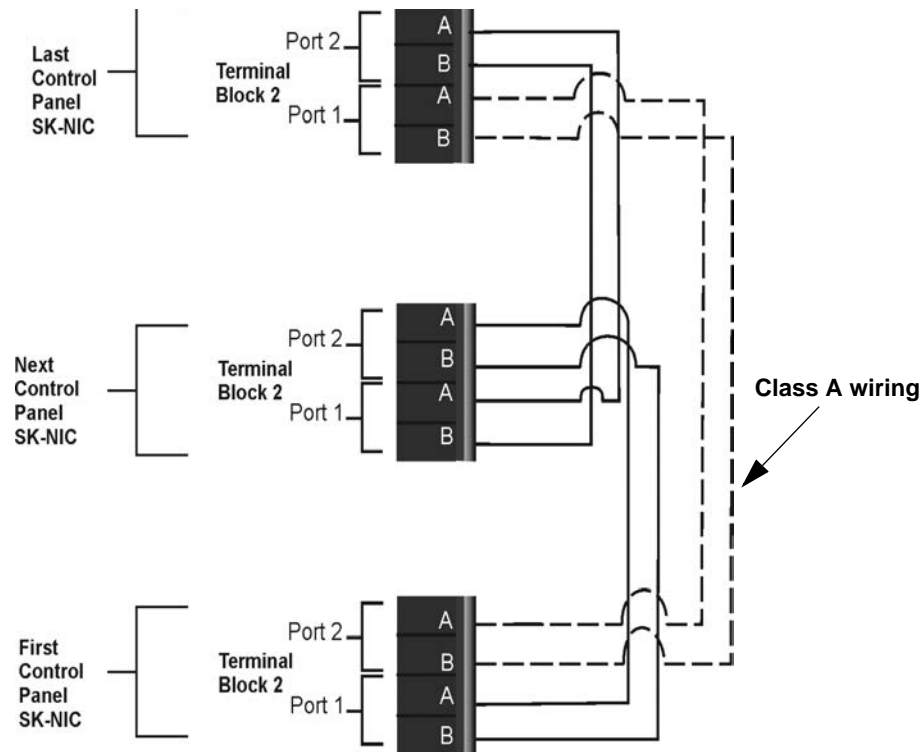
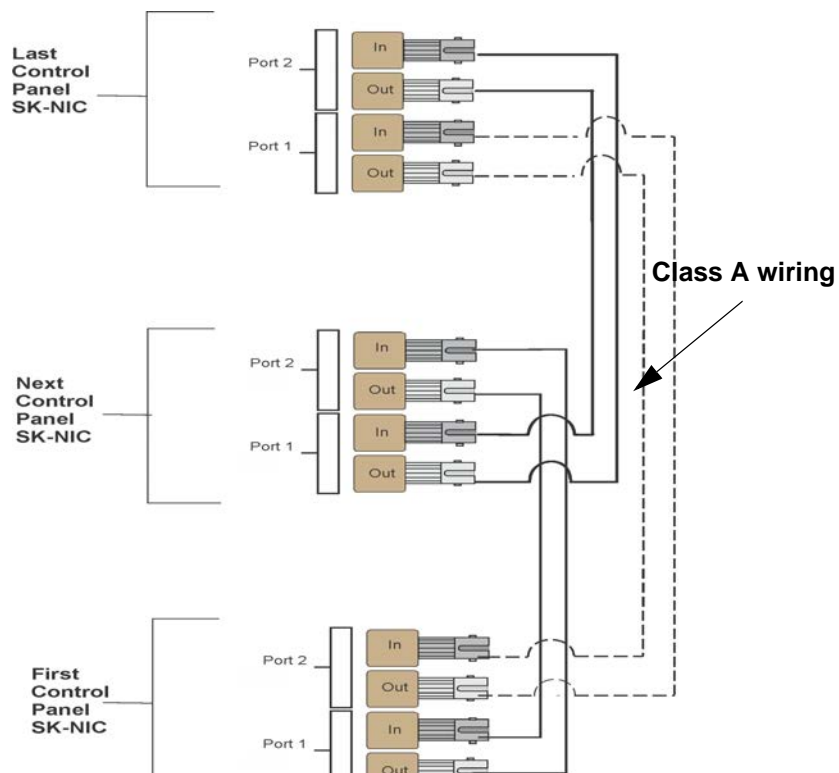
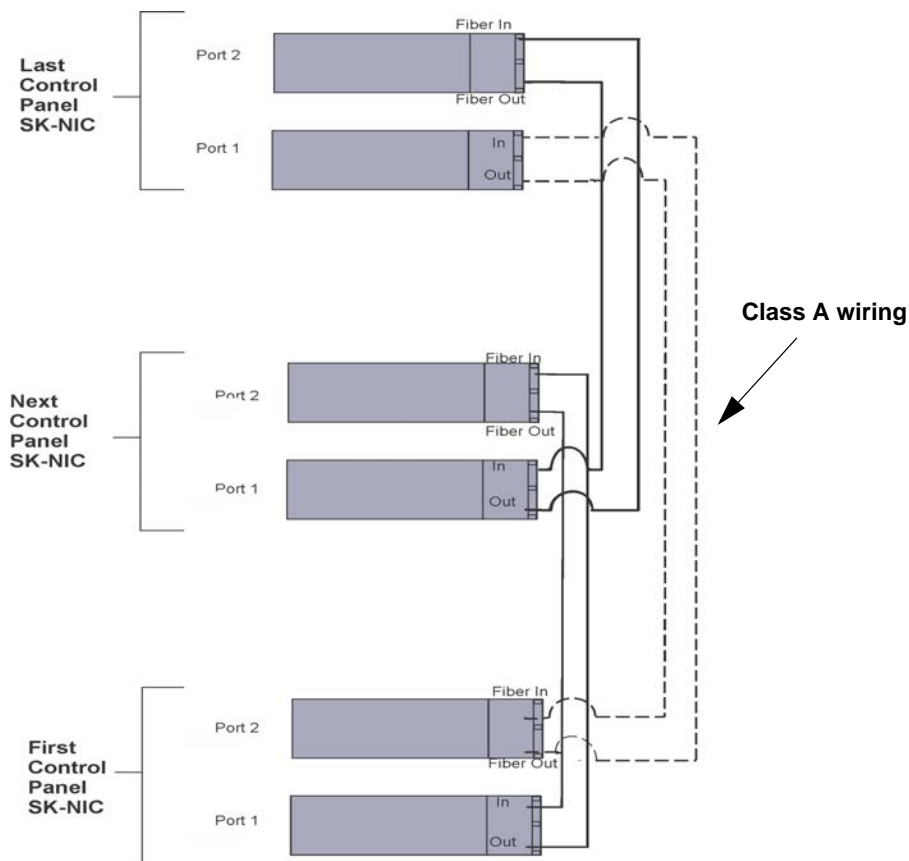
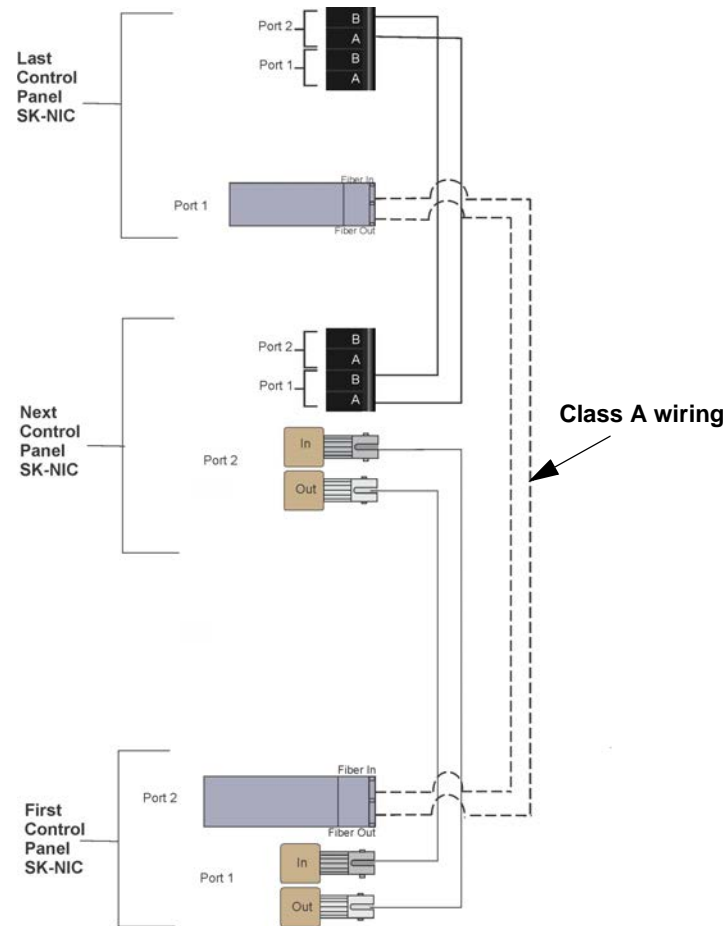

Figure 5.7 Twisted Pair Wiring Configuration
Figure 5.8 Fiber-Optic Wiring Example
Figure 5.9 Fiber-Optic Wiring Single-Mode Example
Figure 5.10 Twisted Pair and Fiber Optic Combination Wiring Example
5. Based on the type of data medium chosen, run the twisted pair wiring/fiber optic cable to the next SK-NIC using a class B or class A wiring method. A combination of both medium types can be used. See Figure 5.7, Figure 5.8, Figure 5.9, and Figure 5.10 for SK-NIC wiring examples.
Unshielded twisted pair wiring between multiple panels is shown in Figure 5.7. Class A wiring is shown with a dotted line.
Fiber optic cable between multiple panels is shown in Figure 5.8. Class A is shown with a dotted line.
A mixture of fiber optic cable and twisted pair wiring between multiple panels is shown in Figure 5.10. Class A cabling is shown with dotted line.